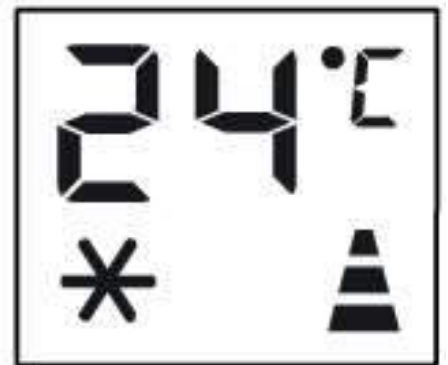

Fig 7
- Press again the  button or the  button, the timer will be cancelled, and the  will disappear from screen. (Fig. 7):